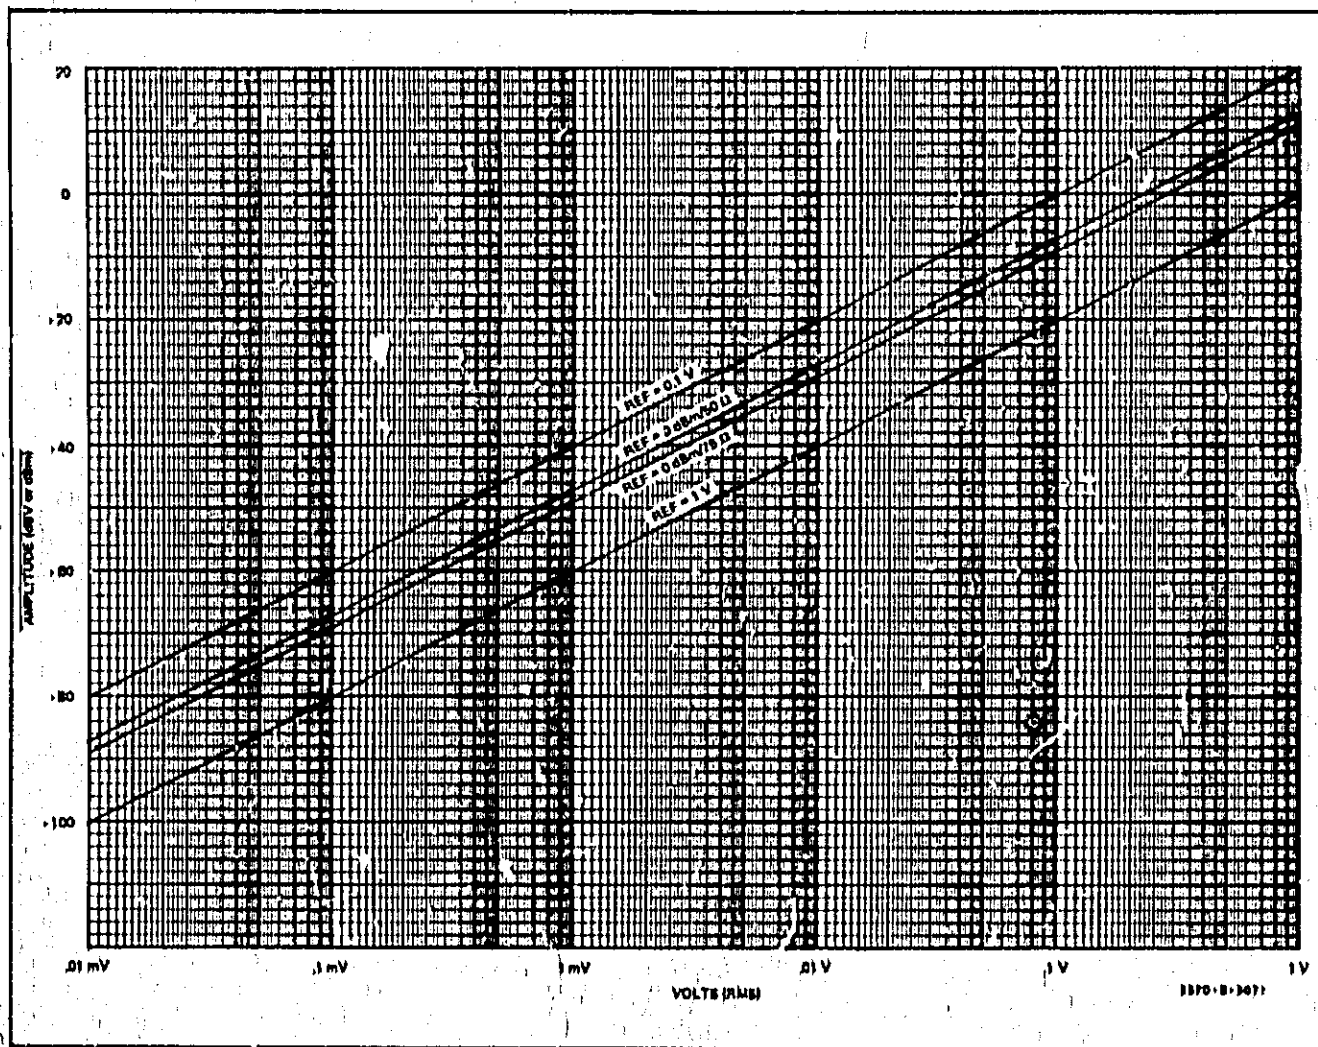

Figure 3-9. Graph: dBV and dBm to Volts Conversion.
3-70. Converting Readings. The A and B amplitude readings in dB(V) or dB(m) can be converted to rms volts using the graph shown in Figure 3-9.